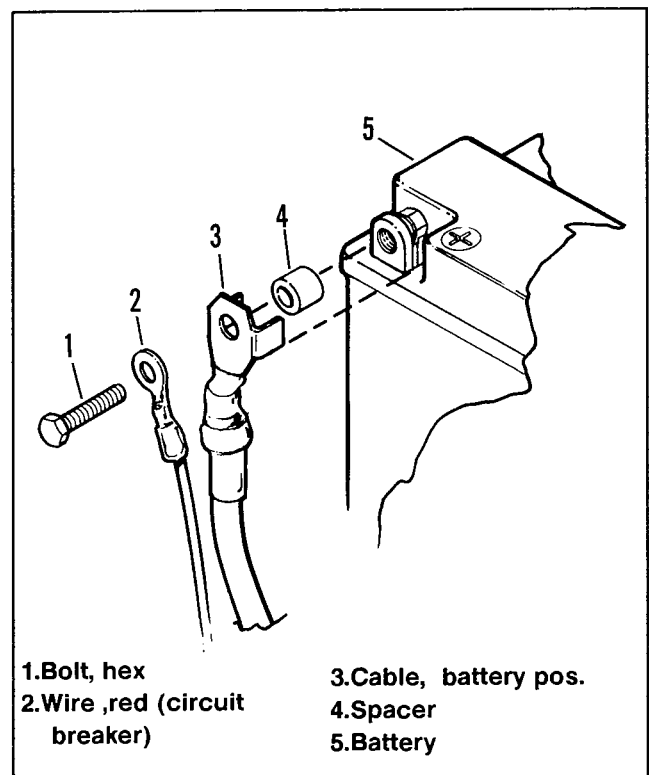

Figure 3. Positive Battery Terminal
10. Hold battery on top of battery carrier. See Figure 3. Attach positive battery cable and red wire from circuit breaker to battery with bolt, spacer and nut.